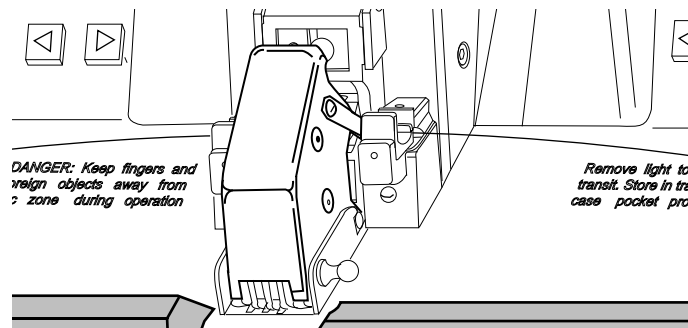

Figure 33
5.7 Gently close the light tower and turn on the set (Figure 33). I/O